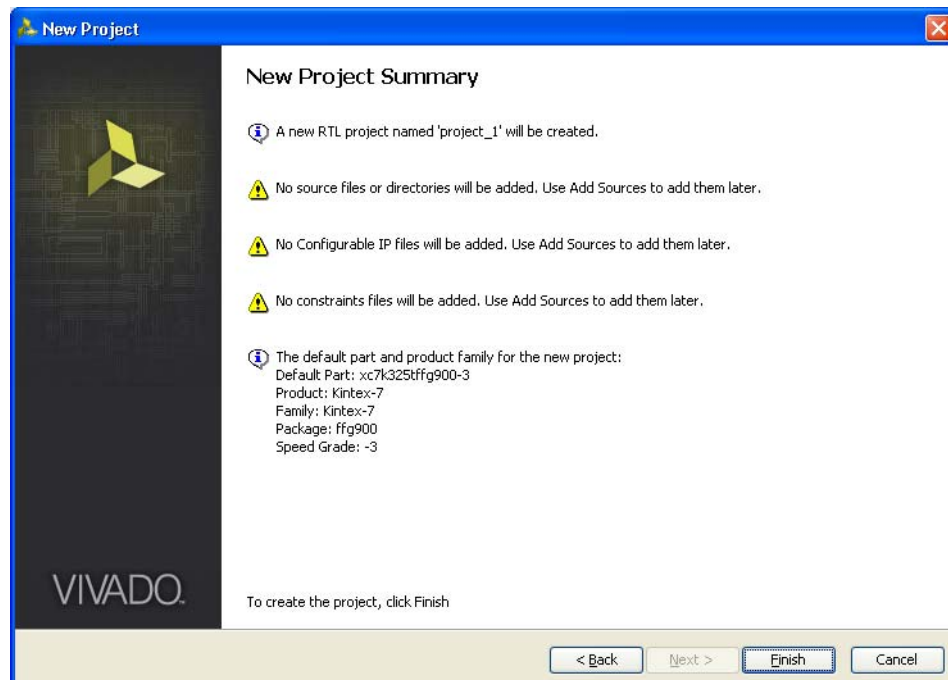

Figure 1-11: New Project Summary
- Click **Next** to open the **New Project Summary** page (Figure 1-11). This includes the summary of selected project details.